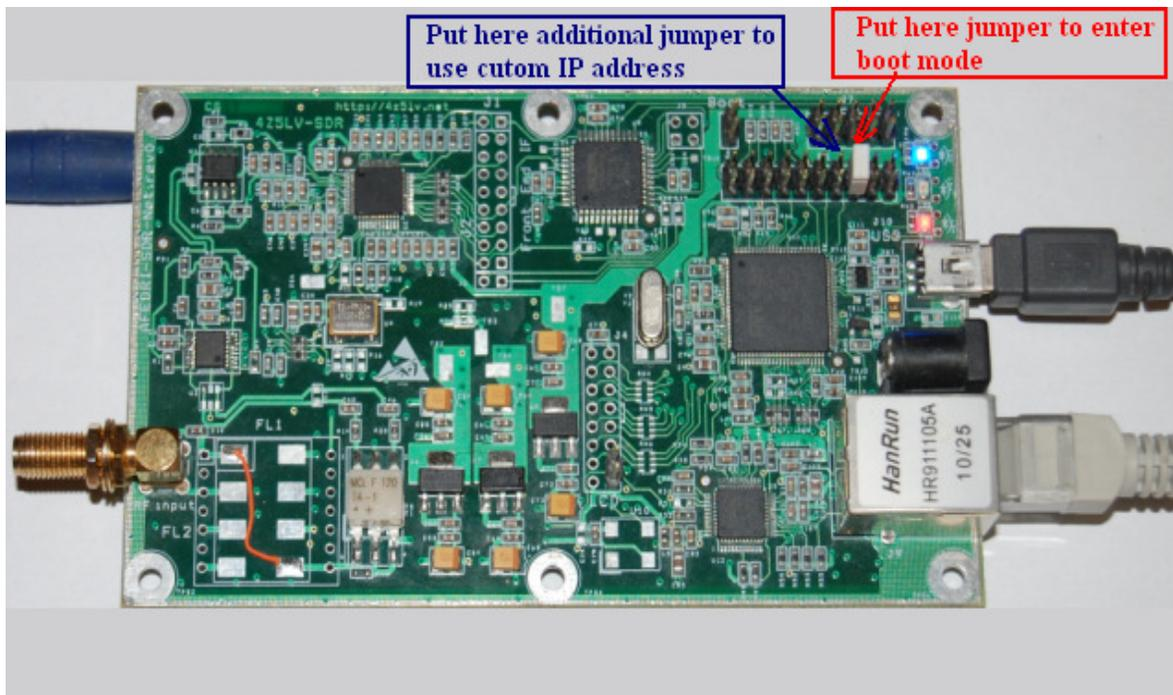

Figure 7 AFEDRI SDR-Net boot-mode jumper position on JTAG (P1) connector, for firmware upgrade mode
3.1.1. Set jumper between pins 5 and 6 of JTAG connector P1 (see Figure.7). If you put only this jumper, SDR will have default IP address - 192.168.0.8.